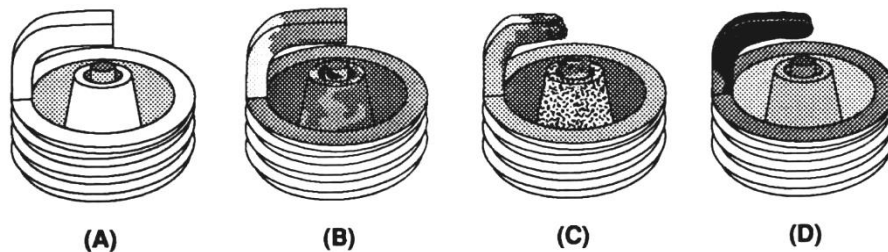

Figure 16 Spark Plug Condition
1. Perform a dynamometer pull or a full throttle pass down the racetrack. Note the power reading or vehicle mph (not e.t.). Examine the spark plugs for an indication of lean or rich nitrous/fuel conditions (refer figure 16 to for tips on reading the spark plugs). For this application, the air/fuel mixtures at WOT tend to be very rich in stock form. You may wish to examine a plug after a NO-nitrous pass or dyno pull for comparison purposes.